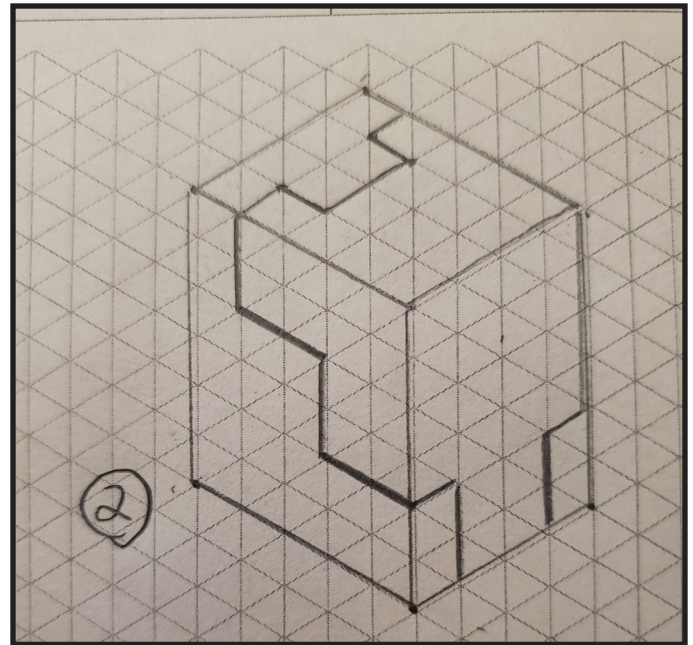

Figure 4.12 - Identify Normal Surfaces
Step 2 - The second step is to identify normal surfaces, starting with those at the bounds of the object. This is the hardest step of the process as you need to go back and forth between at least two of the multiview drawings to place visible lines correctly. This step takes practice, so don't get discouraged if it takes some trial and error to get the object correct. Some students find it easier to relate each vertex of the object to a Cartesian coordinate system. While we will not go into detail of that here, you may try this method on your own. See figure 4.12.
Step 4 - The last step is to darken the visible lines so you clearly show the isometric pictorial from the orthographic multiview drawing. See figure 4.12.